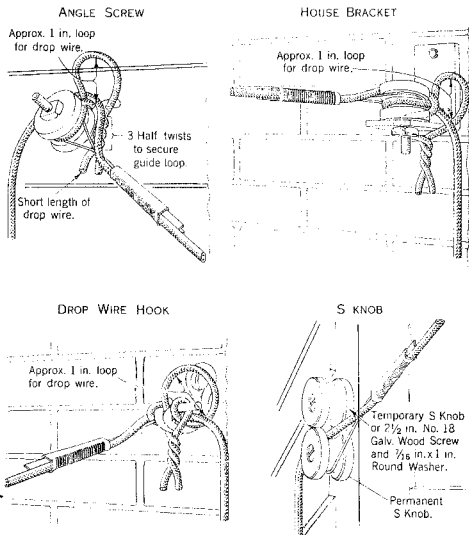

Fig. 1 -- Temporary Guide Loop
(5) Man No. 1 and Man No. 2 both go to the opposite or building end of the drop wire span.
(6) Man No. 1 cuts the drop wire in the building run at a point where the end of the wire can be reached from the ground and then frees the wire from all intermediate attachments between the cut end of the wire and the first building attachment.
(7) Man No. 2 removes the C knob or the SC wire clip at the first building attachment and then places a temporary guide loop at the first building attachment, around the drop wire, such as shown in Fig. 1, to prevent the wire from becoming accidentally disengaged from the building attachment as it is being pulled over the power circuits.